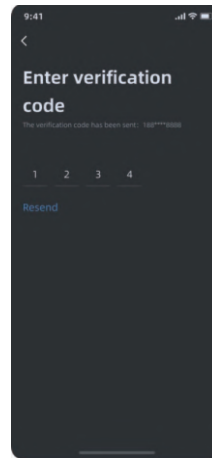

Figure 2
2)Figure 2: After entering the verification code, enter the password setting page.